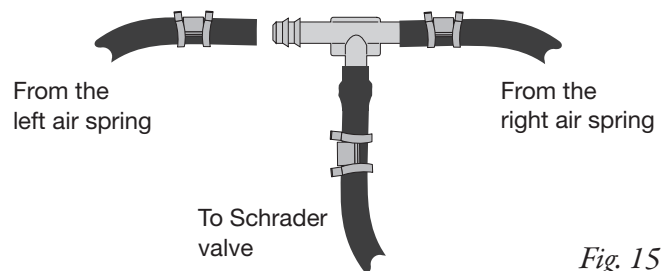

Fig. 15
4. Use this procedure (Fig. 15) for all air line connections:
- b. Push the air line and air line clamp (L) over the barbed stem so that the air line covers all the barbs.